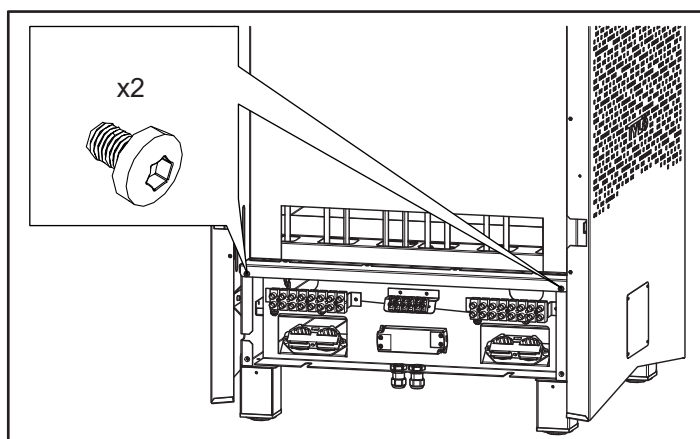

Figure 13: Push in the drawer and secure it
9. Push the drawer in and fasten it with 2 screws (see Figure 13).